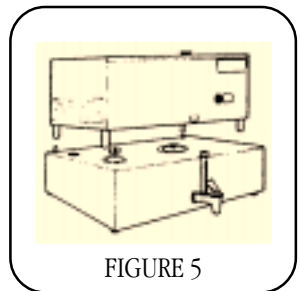

FIGURE 5
- Place distiller on the storage tank as shown in figure 5.